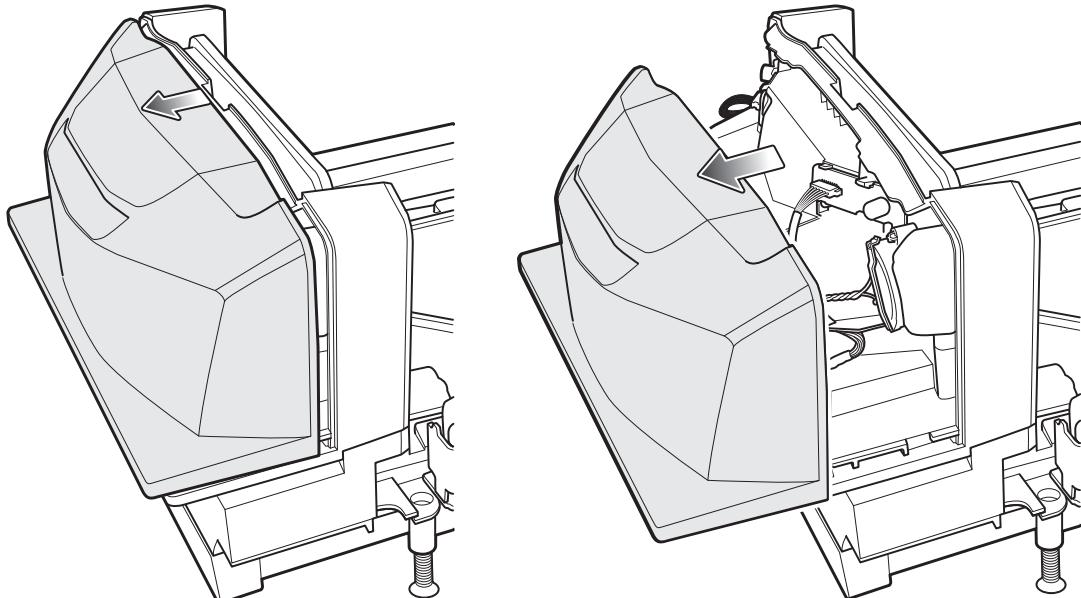

Figure 7-2 Removing the MP70XX Tower Cover
2. Remove the tower cover, if already installed, by lifting the center of the cover with your thumb to disengage from the tower housing, and pulling the cover back (see Figure 7-2 on page 7-2).